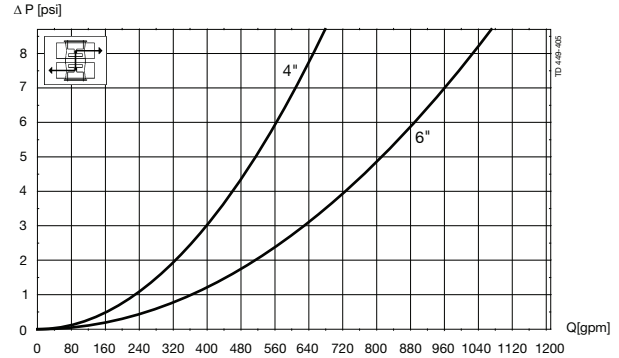

Fig. 3. Pressure drop/capacity diagram, between bodies.
- From fig. 3, $\Delta p = 1.1$ psi between bodies.